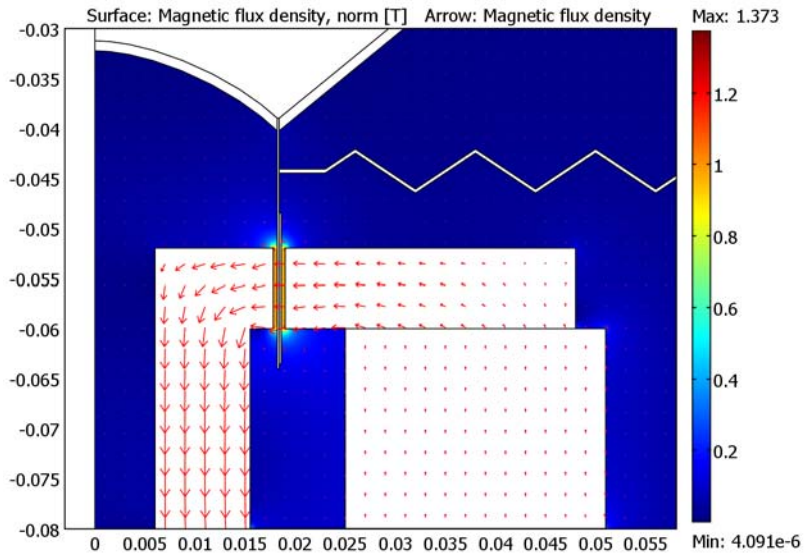

Figure 3-22: Magnetic flux density near the voice coil.
The magnetic flux density in and around the voice coil appears in Figure 3-22. The maximum flux density in the air arises in the gap between the pole piece and the top
- 5 Click **OK** to see the plot and reproduce Figure 3-22.